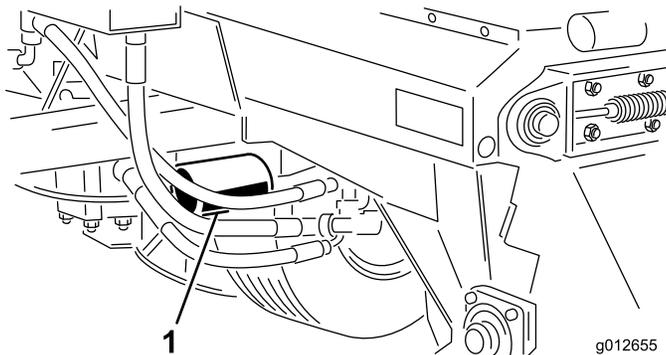

Figure 28
2. Clean area around filter mounting area. Place drain pan under filter and remove filter (Figure 28).